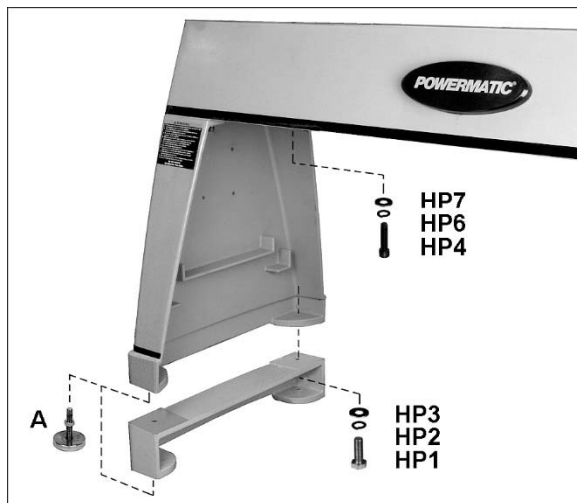

Figure 6-1: installing legs and riser blocks
4. Install legs to bed with screws and washers (HP4/6/7, Figure 6-1). Tighten screws firmly.
5. If installing the riser blocks, mount them to the stands with screws and washers (HP1/2/3, Figure 6-1).
6. Screw levelers (A, Figure 6-1) into threaded holes of riser block (or legs if riser block not used). The levelers can be adjusted at any time to ensure the Lathe is stable and level. Tighten the hex nuts against bottom of riser block/legs to secure height setting.